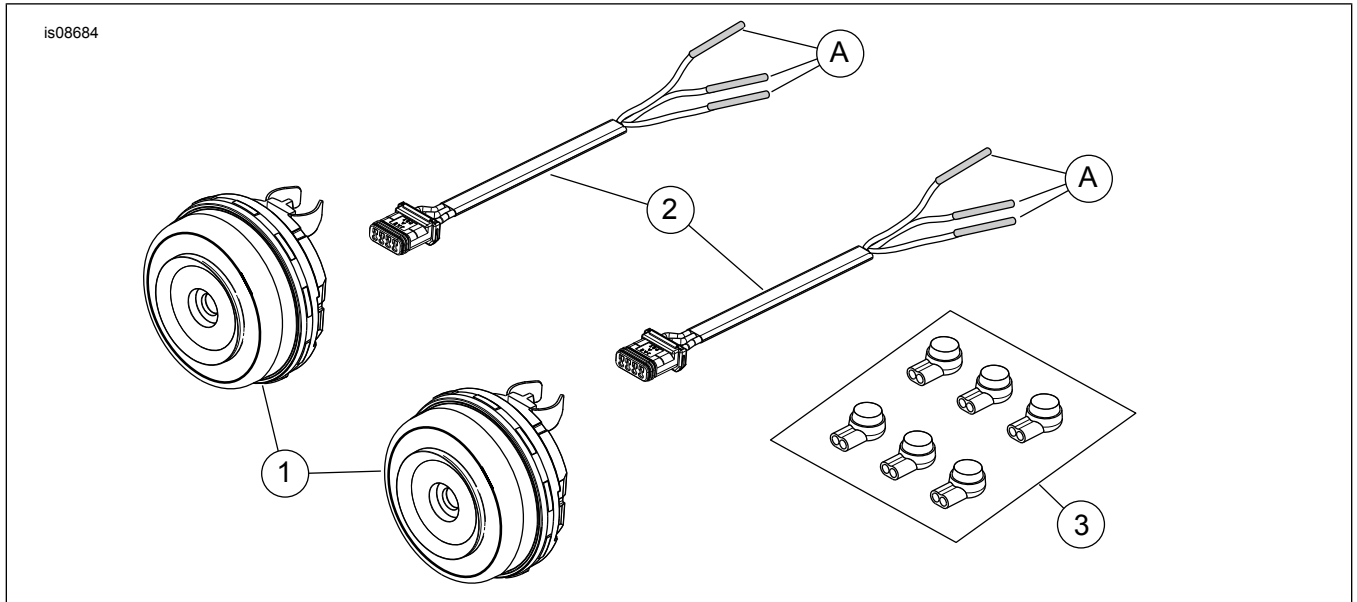

Figure 5. Service Parts: Run/Stop/Turn Lamp
See Figure 5 and Table 1.
7. See Figure 5. Match harness wire (2) with same wire color in lamp housing. Cut shrink insulator (A) off matching wire color.
11. Verify that all buttons are in the down position. Failure for full engagement of internal splicing connectors (8) can result in a faulty splice. This can cause lights to malfunction or not operate.
12. See Figure 5. Connect lamps (1) to harnesses (2).